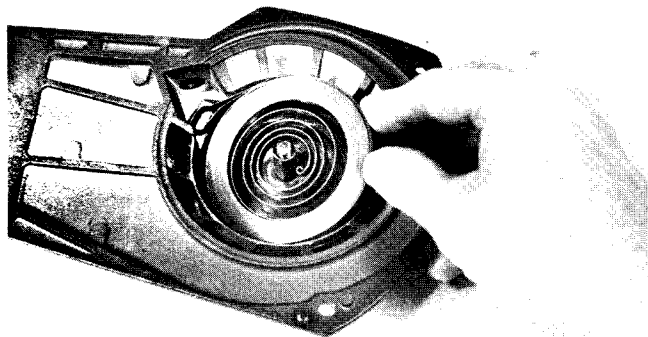
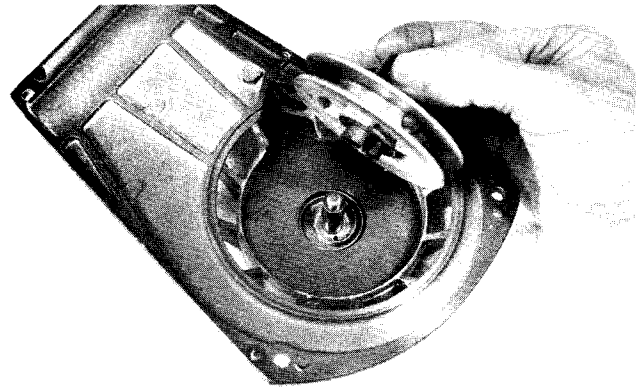

Fig. 82 — Installing Spring
Fig. 83 — Installing Plastic Spacer and Pulley
3. Insert new spring, Fig. 82, plastic spacer and pulley, Fig. 83, into housing and secure with "E" ring and washer.